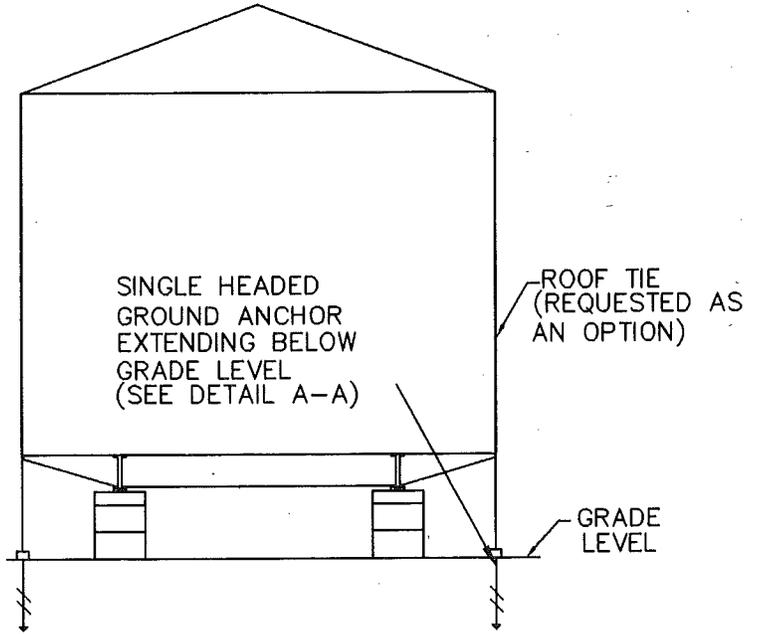

FIGURE 44
1. Position and install the ground anchors so that the strap will be vertical after attachment to the anchor. The anchor may be installed slightly beneath the home to avoid interference with skirting. See Figure 44.